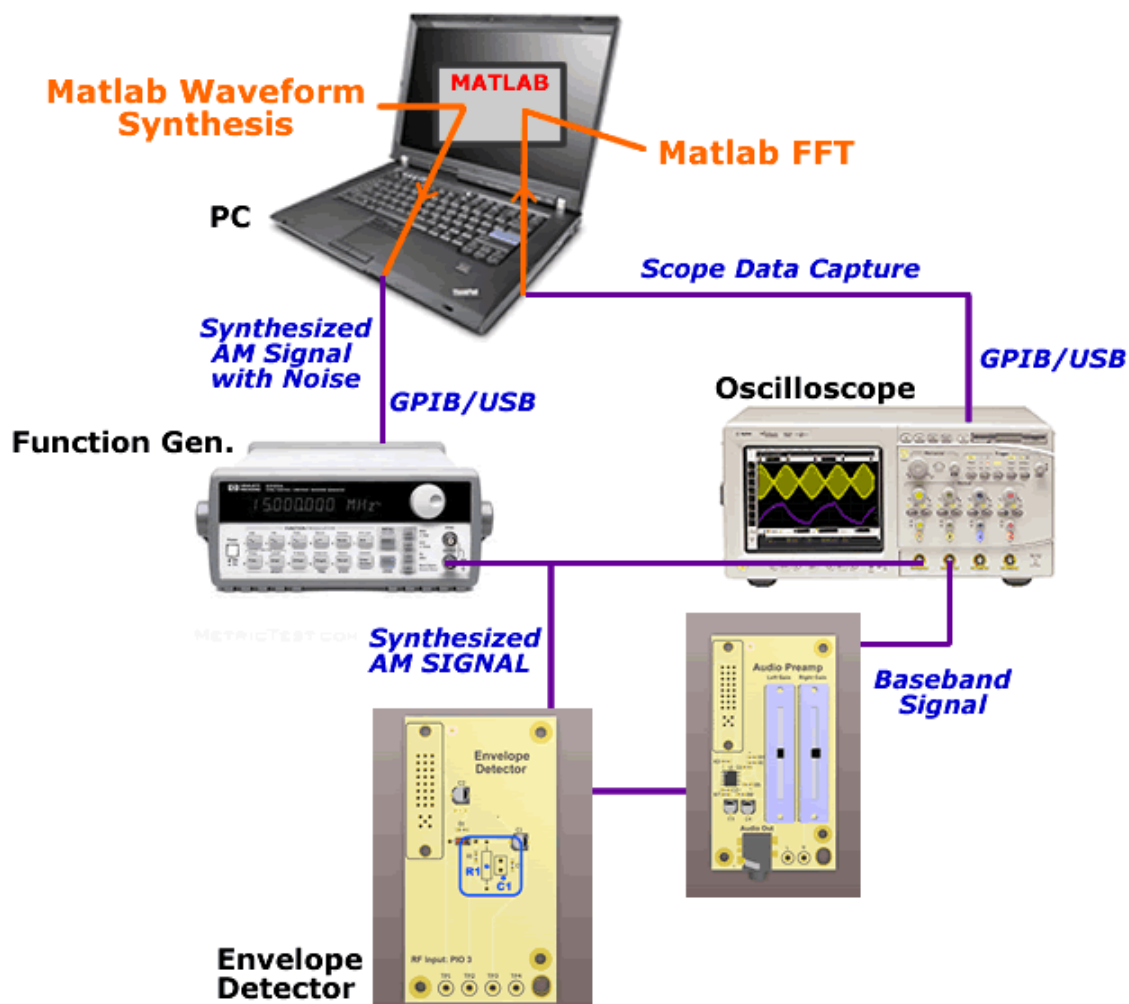

Figure 5: Block diagram of the approach for single-tone AM detection with added Gaussian noise.
* Repeat the single-tone AM detection experiment by digitally synthesizing single-tone AM signals with varying SNR in MATLAB as you did in Lab 1. As always, pay special attention to sampling and duration of your synthesized waveform and the frequency and amplitude settings of the function generator. Figure 5 shows the overall block diagram for this part of the lab project.